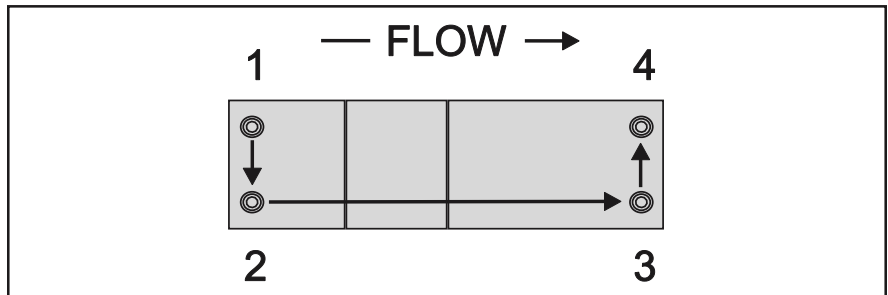

Figure 2-6 Mounting Screws Torque Pattern*
4. Using a torque wrench and a metric hex key, tighten the screws to the torque value as described in Table 2-2 and Torque Pattern Figure 2-6.